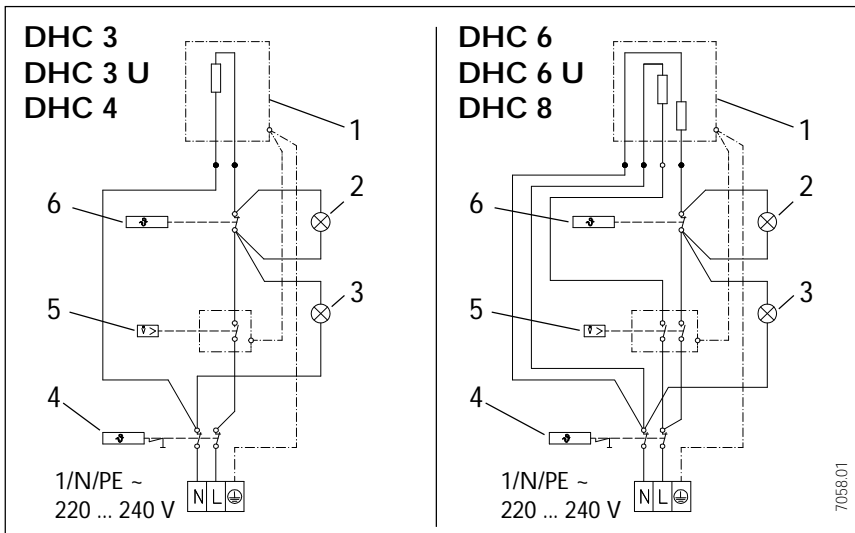

Fig. 14
**⚠** The unit must be connected to the safety earth terminal (see Fig. 14).
Legend to Fig. 14
- Establish the electrical connection (Item 10) in accordance with Fig. 14, and tighten the screws of the strain relief collar.
- Establish the fixed-position lead (Item 7) for the electrical connection (Item 10) in accordance with Fig. 14
- Lay the fixed-location lead (Item 15) for the electrical connection (Item 16) in accordance with Fig. 14.
- Lay the fixed-location lead (Item 7) for the electrical connection (Item 10) in accordance with Fig. 14.